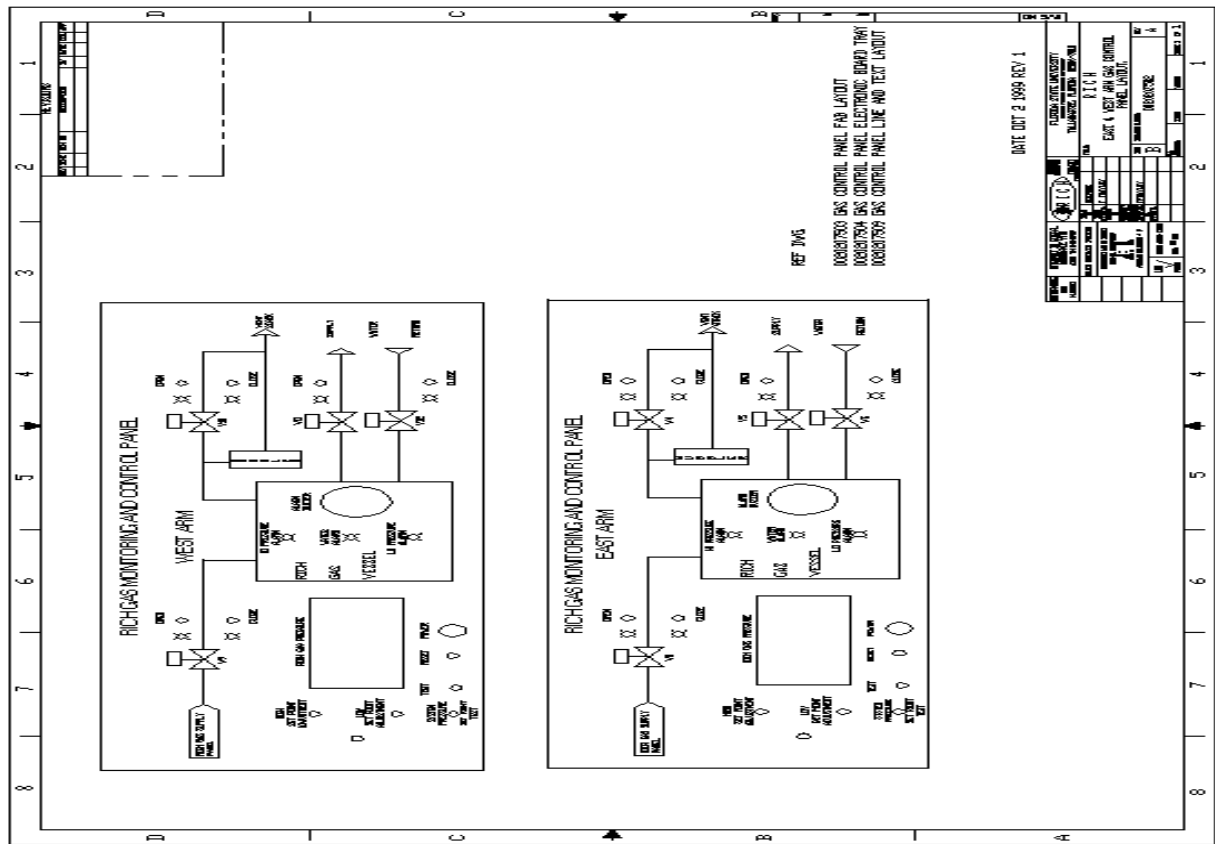

Fig. 3 RICH monitor and control system front panels.
- 3 Figure 3 - RICH Gas Monitoring and Control Panel layout for west and east arms